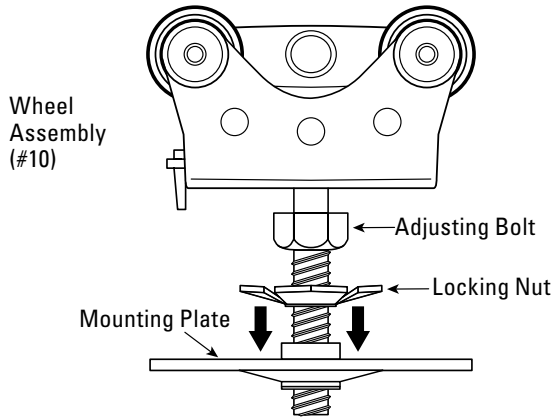

Figure 5
A. Adjust the panels to your desired position in the header using the adjusting bolt (See **Figure 5**) on the Wheel Assembly with a 9/16" open end wrench, until the door aligns flush with the opening. The bottom of the Door Panel should be minimum of 3/16" above the floor staying within the Molded Floor Guide's placement at a minimum of 3/16" and maximum 13/16".
A. Molded Floor Guide should be installed to the floor in a position directly underneath the Door Panel when the door is open or closed. Reference Molded Floor Guide in **Figure 5** and **Diagram 2** for placement.